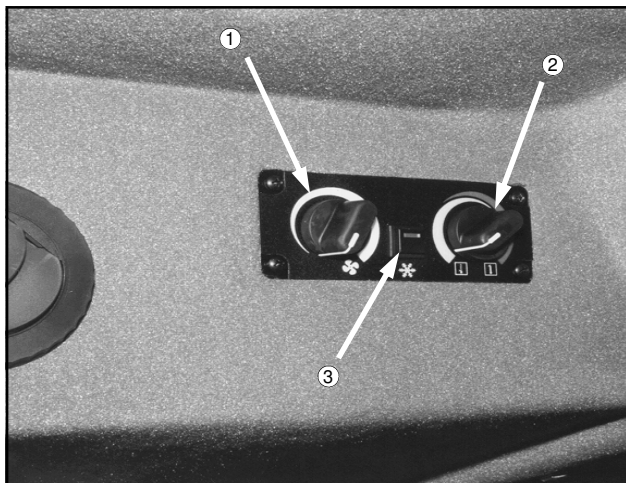

FIG 5.83
ADJUSTING FAN BLOWER SPEED - Fan blower speed is controlled by the left rotary dial on the cab climate control panel (fig. 5.83, item 1). The fan blower speed is a continuously variable adjustment. To increase fan speed, rotate fan blower dial clockwise. To reduce fan speed, rotate fan blower dial counterclockwise. To shut fan blower off, rotate fan blower dial all the way counterclockwise.
ADJUSTING TEMPERATURE SETTING - Forced air temperature adjustments are controlled by the right rotary dial on the cab climate control panel (fig. 5.83, item 2). Temperature control is a continuously variable adjustment. To increase forced air temperature, rotate temperature dial clockwise. To decrease forced air temperature, rotate temperature dial counterclockwise.
OPERATING AIR CONDITIONING - To activate the air conditioner, depress the air conditioning switch (fig. 5.83, item 3). Adjust fan speed and temperature accordingly.